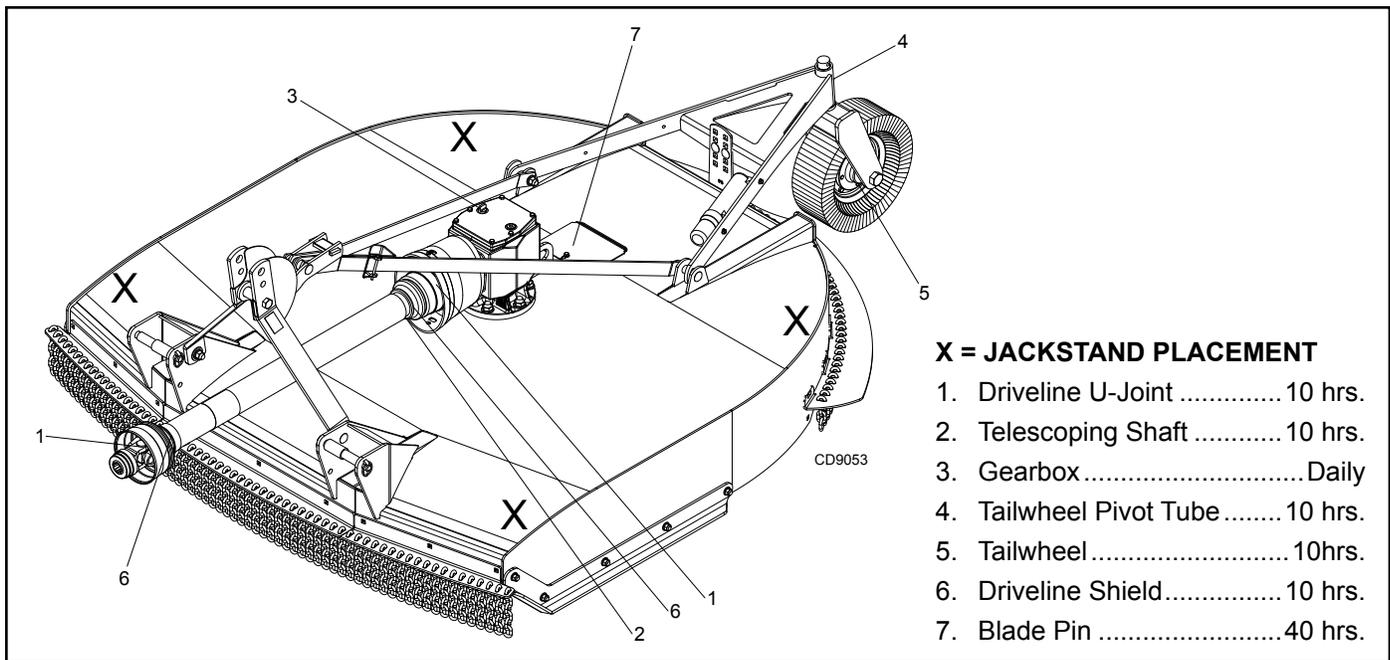

Figure 12. Jackstand Placement and Lubrication Points
1. Jackstands with a load rating of 1000 lbs. or more are the only approved blocking device for this cutter. Install jackstands (shown by Xs in Figure 12) under the cutter before working underneath unit.
2. See Figure 12 for lubrication points and frequency or lubrication based on normal operating conditions. Severe or unusual conditions may require more frequent lubrication.
- If blade pin (7) is seized in crossbar and extreme force will be needed to remove it, support crossbar from below to prevent gearbox damage.
2. Raise cutter and block securely (see Blocking Method, Figure 12).
3. Open blade access cover and align crossbar assembly (2) with blade access hole in the cutter frame. Remove cap screw (13) blade pin lock clip (12) keyhole plate (11) and shims (8, 9 & 10). Carefully drive blade pin out of crossbar.
3. Loosen six 12 mm cap screws (7) to remove all tension from the compression springs (5).
4. Hold clutch hub (3) solid and turn shaft to make sure clutch slips.
5. If clutch does not slip freely, disassemble and clean the flange yoke (1), clutch hub (3), drive plates (4 & 5), and thrust plate faces (6).
7. Compress each of the six compression springs (8) by tightening the six cap screws (7) and lock nuts (10). The compression springs should be compressed to a height of 1-7/16", not including washer (9). The minimum spring height is 1.36". See Figure 12.
8. If a clutch continues to slip when the springs are compressed to 1.36", check friction discs (2) for excessive wear. Discs are 1/8" when new. Replace discs after 1/16" wear.